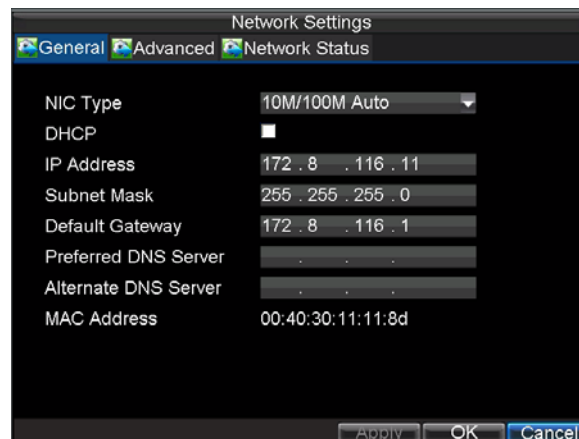

Figure 3. Network Settings Menu
2. Select the **General** tab, as shown in Figure 3.